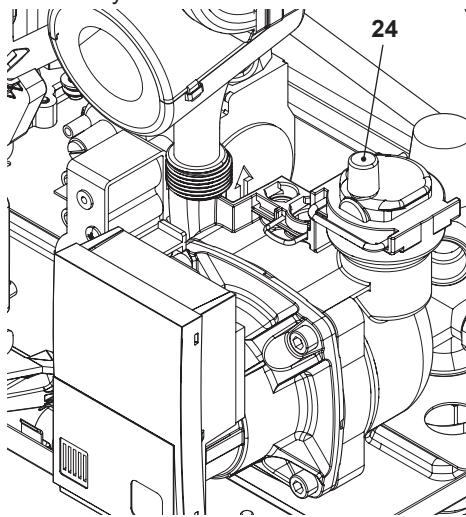

Fig. 7.2
- Loosen the cap on the automatic air purger valve 24 in Fig. 7.2 and leave open permanently.